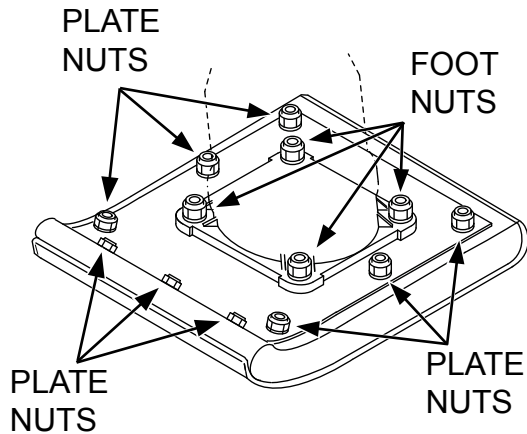

Figure 7. Tightening Nuts
1. Check all nuts, bolts fasteners for tightness. Retighten nuts (Figure 7) as necessary with the following torques: